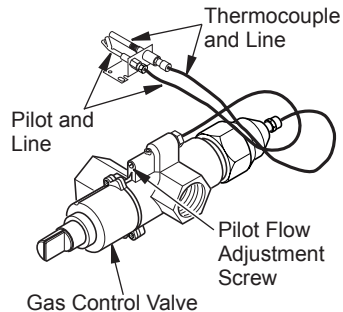

Figure 8 - Gas Control Valve with Thermocouple and Pilot
2. Attach the pilot gas line to the pilot outlet of the gas control valve and tighten. Connect the thermocouple to the rear of the gas control valve. See Figure 8. Do not overtighten. If using propane/LP gas, see Changing Pilot Orifice, page 6.